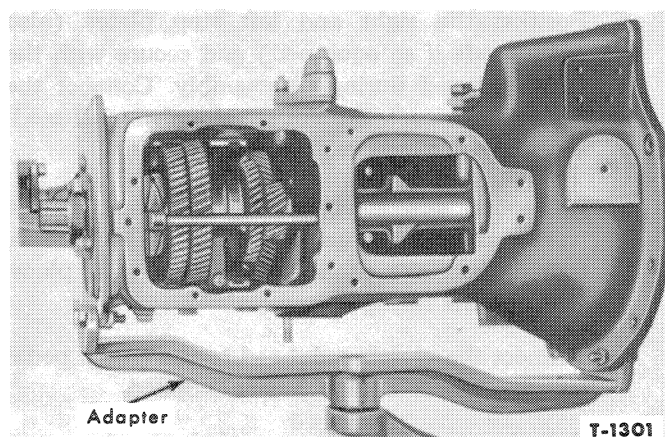

Figure 2—Transmission Mounted on Engine Stand
19. Remove the transmission-to-center-housing attaching bolts and nuts, and separate the transmission from the center housing. Discard the gasket and hydraulic line "O" rings. Mount the transmission on a support stand or bench, Figure 2.